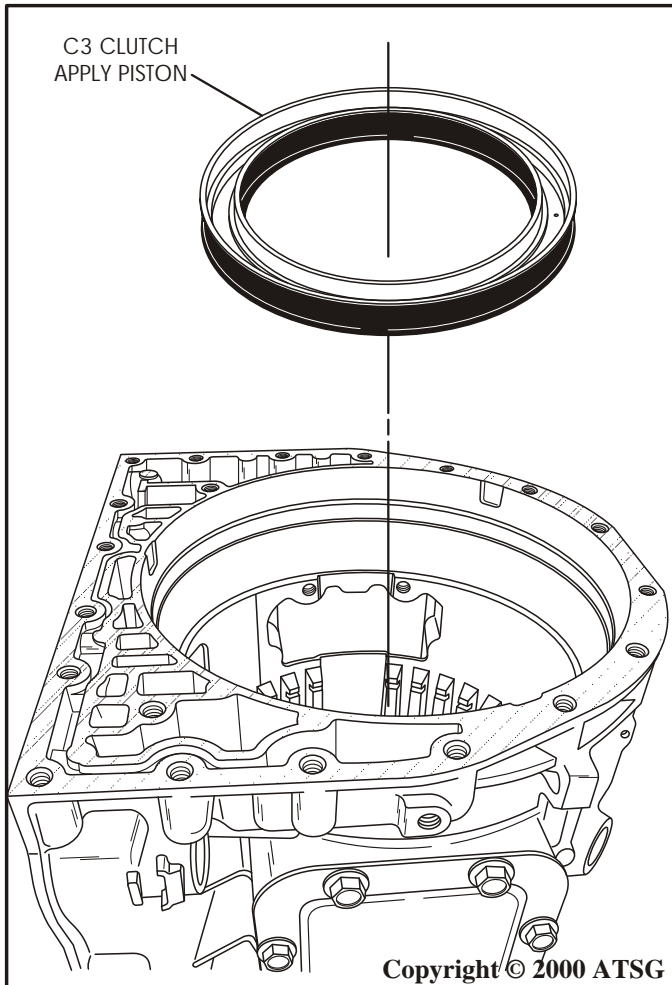

Figure 76
2. Inspect the C3 clutch molded apply piston and replace as necessary (See Figure 76).
3. Lubricate C3 clutch piston with a small amount of TransJelä, and install into the case bore, as shown in Figure 76.